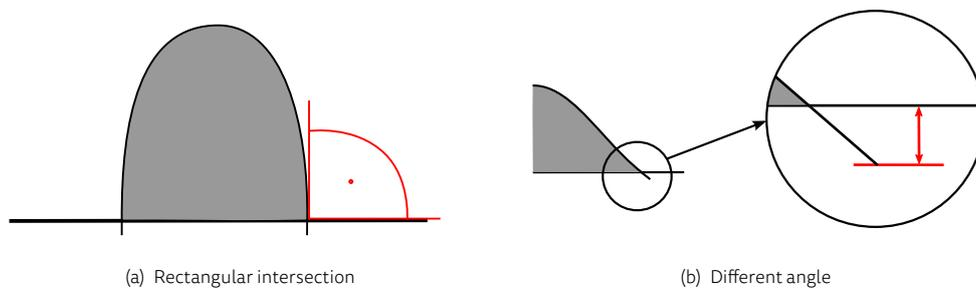

Figure 2.3: Pins intersecting the base plate
3. The pins shall have a right angle where they touch the base plate (see Figure 2.3(a)).
If your physical plate's geometry requires a different pins angle than 90°, we *highly recommend* to extend the pins to 0.5 mm below the base plate (see Figure 2.3(b)).